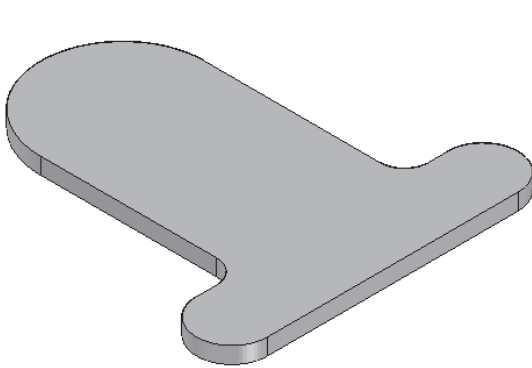

Figure 7-76 Base feature of the model
- Start a new part file and create the base feature on the top plane, refer to Figure 7-76.
- Start a new part file and then create the base feature of the model, as shown in Figure 7-76.